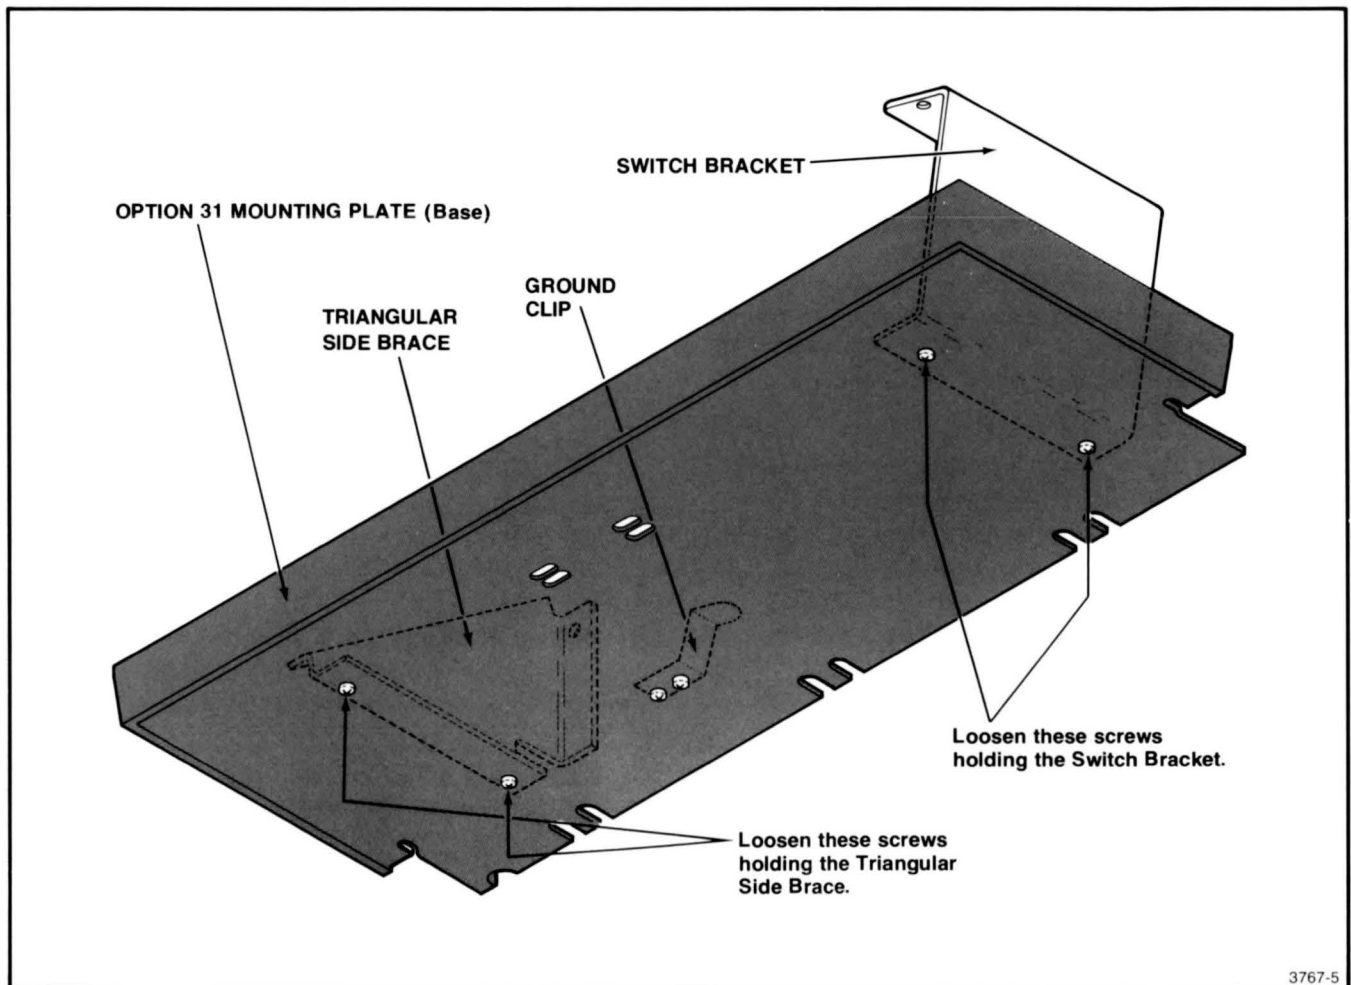

Figure J-6. Option 31 Support Screw Locations.
4. **Loosen** (but do not remove) the screws that hold the triangular side brace and the switch bracket to the Option 31 mounting plate (see Figure J-6).